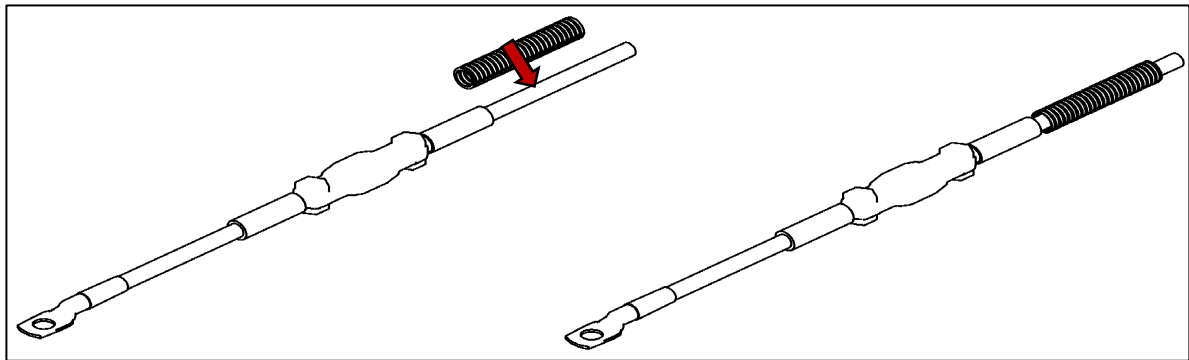

Fig. 17
- Insert the positive cable (25 mm² red) (“power unit cable”) for the power supply into a length of slit corrugated tubing (see Fig. 17).